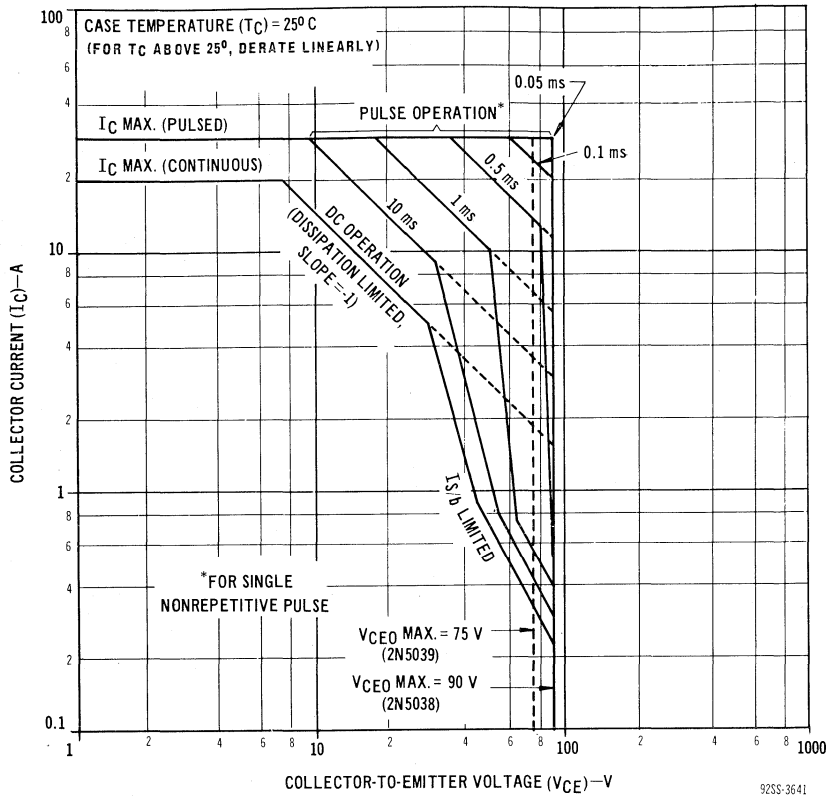
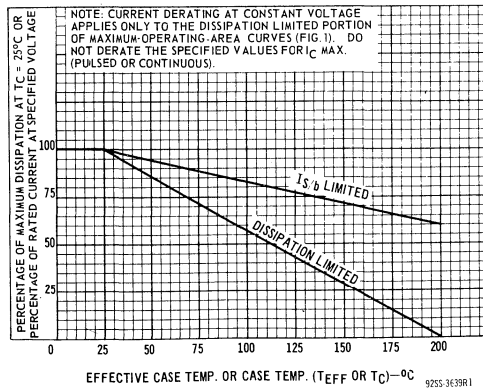

Fig. 1 - Maximum operating areas for types 2N5038 and 2N5039.
Fig. 2 - Dissipation derating curves for types 2N5038 and 2N5039.
*See Fig. 1.*
*See Figs. 1 & 2.*
For most transistors the maximum operating area is defined by four straight lines on a log-log plot of  $V_{CE}$  vs  $I_C$ . As shown in Fig.1 a horizontal line defines the maximum current, a line with a slope of -1 defines the maximum power dissipation allowable; a line with a slope greater than -1 defines the forward-bias second breakdown limit; finally, a vertical line indicates the maximum voltage rating of the device.
The RCA-2N5038 and 2N5039 transistors utilize the multiple-emitter site structure which provides a greater safe operating area than other similar devices. As can be seen in Fig.1, these transistors are free from second-breakdown out to 28 volts and 5 amperes. The boundary, out to this point is made up of the maximum current and maximum power curves. Beyond the boundary, second-breakdown effect becomes the controlling factor. Second-breakdown is made up of two successive straight lines—one with a slope of -4 and one with a slope of -2. The final limiting factor is the maximum voltage rating for the devices.
Second breakdown is less sensitive to temperature variations than normal power-dissipation limitations. Therefore, separate temperature derating curves are required for these two limiting factors as shown in Fig.2. For operation at temperatures greater than 25°C, Fig.1 and 2 are used to obtain the maximum allowable power. This is done as follows:
- (1) For a specified pulse duration and collector-to-emitter voltage,  $V_{CE}$ , determine (from Fig.1) the maximum collector current at 25°C, using the curve marked "DISSIPATION LIMITED" (or its dashed-line extension).
- (2) Refer to Fig.2 and, from the "DISSIPATION-LIMITED" curve, determine the percentage current derating at the specified temperature. Apply this derating to the value of  $I_C$  from step (1), to obtain the maximum current for dissipation-limited operation.
- (3) If the specified value of  $V_{CE}$  required the use of a dashed-line extension of a dissipation-limited curve
- (4) Repeat step (2) using the IS/b-LIMITED curve in Fig.2.
- (5) The maximum allowable current is the smaller of the two values obtained in steps (2) and (4).
For repetitive-pulse operation, the effective case temperature ( $T_{EFF}$ ) to be used in Fig.2 is the sum of the maximum ambient temperature, the rise in case temperature, and the rise in junction temperature resulting from the average transistor power dissipation.